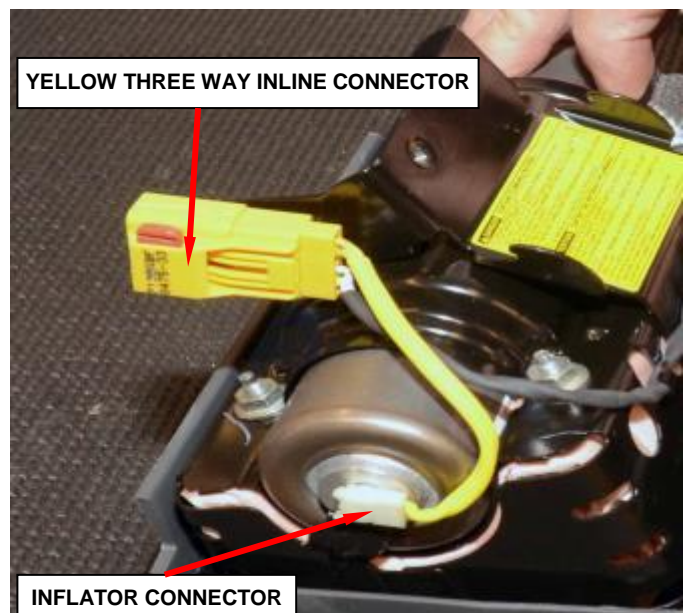

Figure 95 – Inflator Connectors
- c. Disconnect the single yellow wire inflator connector from the end of the inflator using pliers (Figure 95).
- d. Remove the yellow three way inline connector from the housing bracket (Figure 95).
- j. Install the yellow three way inline connector to the housing bracket (Figure 95).